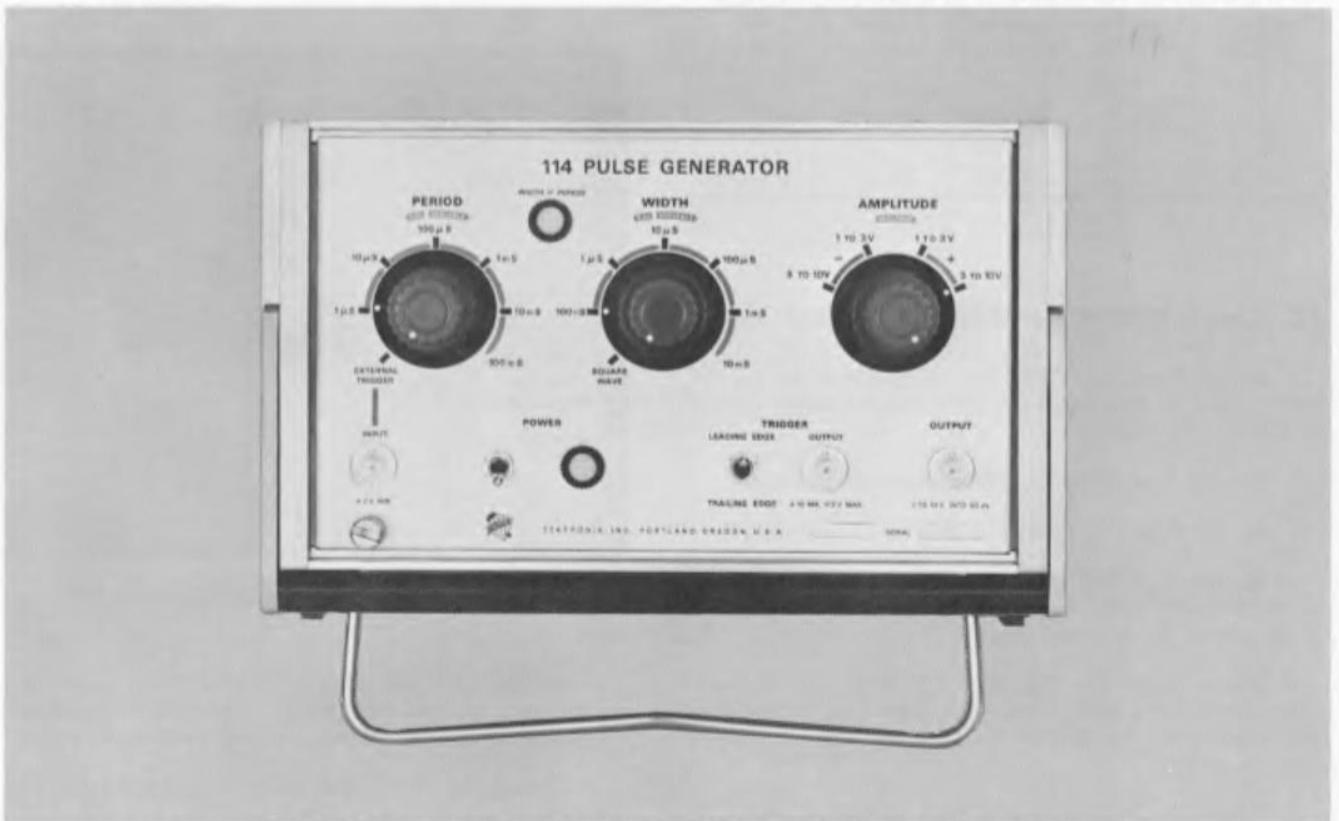

Fig. 4-14. Control settings for adjusting 100 nS Pulse Width capacitor C195F.
- Set the Type 114 WIDTH switch to 100 nS, set the PERIOD switch to 1 μ S (see Fig. 4-14).
- Set the Type 547 TIME/CM (B) to .1 μ SEC.